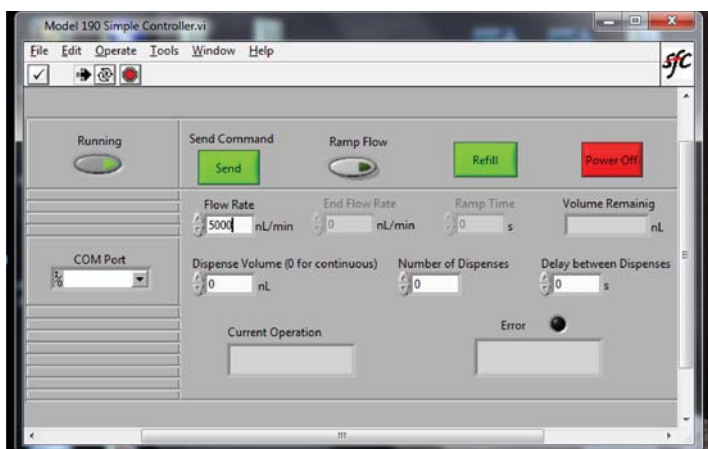

Fig. 20—Starts the pumping at 5000nL/min.
2. Press the Send button. The pump starts flowing at the specified flow rate and will not stop until you send a stop command, press the start/stop button on the front panel of the pump, press refill or power off on the soft panel, or the pump reaches its maximum stroke volume. For example, pressing the Send Command button on the screen shown in Fig. 20 starts the pump at 5000 nL/min.